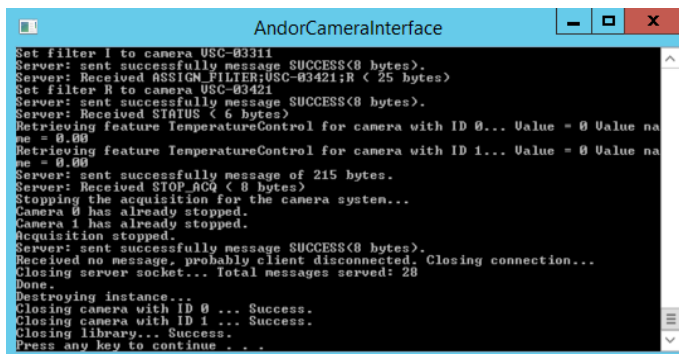

Fig. 6.19. Closing the Andor Camera Interface.
3. Click on the “Andor Camera Interface” window that displays the message “Press any key to continue...” (Fig. 6.19) and just press any key. The window closes.